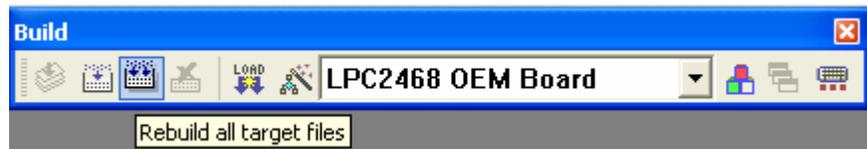

Figure 5-4. Rebuild All Files
- Goto project tab and click 'Rebuild all target files' to compile the project or click the "Rebuild all target files" button on the build tool bar as shown in Fig 5-4.